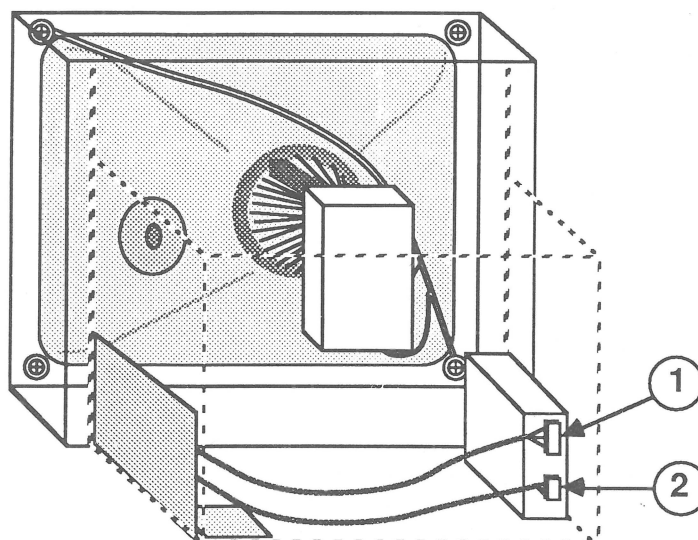

FIGURE 6
4. Unplug the six-pin connector (Figure 6, #1) and the three-pin connector (Figure 6, #2) from the rear of the power supply.
1. Set the power supply inside the chassis, but don't yet insert the tabs. Reconnect the six-pin connector from the logic board (Figure 6, #1) and the three-pin connector from the power switch (Figure 6, #2) to their connectors on the rear of the power supply.